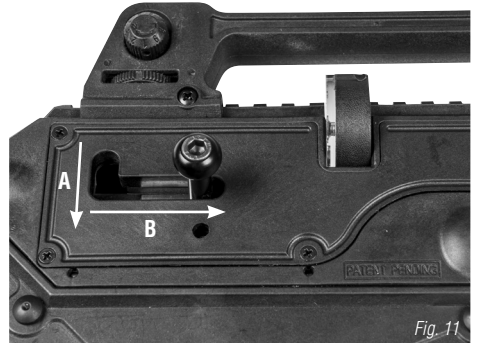

Fig. 11
6. Once you are ready to fire, release the bolt lever and move it all the way forward. (Fig.11)